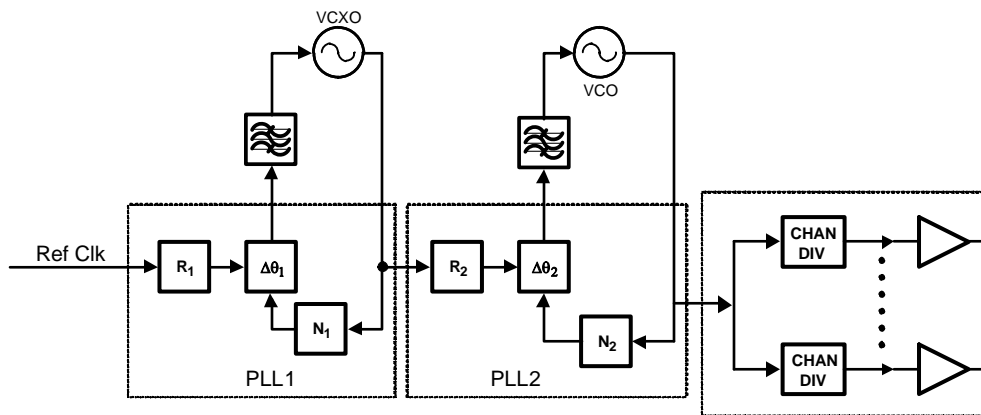

Figure 1. Dual-PLL Jitter Cleaning Clock Synthesizer Architecture
The purpose of this applications report is to present phase noise and jitter measurements representing the clock outputs of the LMK04000 family of Precision Clock Conditioners, when paired with various voltage controlled oscillators (VCXOs). The intent is to illustrate the relationship between clock output phase noise and VCXO phase noise. The LMK04000 family provides superior jitter cleaning capability by employing a dual, cascaded phase locked loop (PLL) architecture. A generic example of a dual PLL architecture is shown in Figure 1. The figure also shows a clock distribution section following the VCO output.
The weighting function $H(f)$ is the lowpass closed loop transfer function, formed by parameters such as the charge pump gain, loop filter response, VCO gain, and feedback path (N) counter. This equation represents the noise model at the output of each of the PLL stages shown in Figure 1. The gains associated with the reference clock noise (G_{REF}) and PLL noise (G_{PLL}) are also functions of specific loop parameters. Though the explicit expressions for these gains and closed loop response $H(f)$ are not derived here, the relevance of this equation can still be seen. In general, the synthesizer parameters that comprise $H(f)$ and the gain values represented in the equation are under the control of the designer and should be chosen such that the overall noise at the synthesizer output ($S_{\text{TOTAL}}(f)$) is minimized. In this case, minimization means achieving the smallest integrated noise. When the noise equation is applied to PLL2, $S_{\text{REF}}(f)$ represents the VCXO noise. In the case of the LMK04000 family, $S_{\text{PLL}}(f)$ and $S_{\text{VCO}}(f)$ are “fixed” by the device characteristics, but $S_{\text{REF}}(f)$ is dependent on the VCXO chosen by the designer. *Therefore it is important to select a VCXO that supports the phase noise and jitter requirements of the target application.*